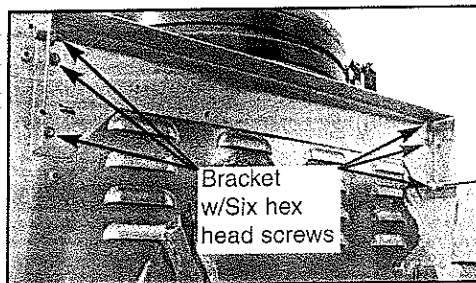

Fig. 10
2. Attach the side shelf brackets by re-inserting the six 1/4" hex head screws you just removed on each side of the grill. (See Fig. 10)